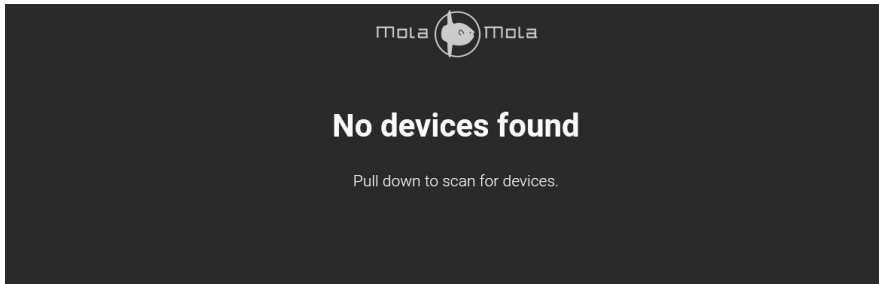

Figure 5: Pull down to scan for devices.
1. Pull down to scan for devices (figure 5).